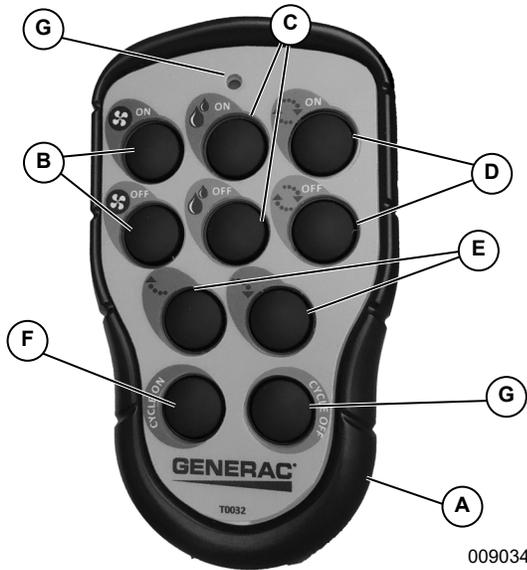

Figure 3-9. Transmitter
3. See **Figure 3-9**. Switch main on-off switch (A), obscured on back of transmitter, to ON.